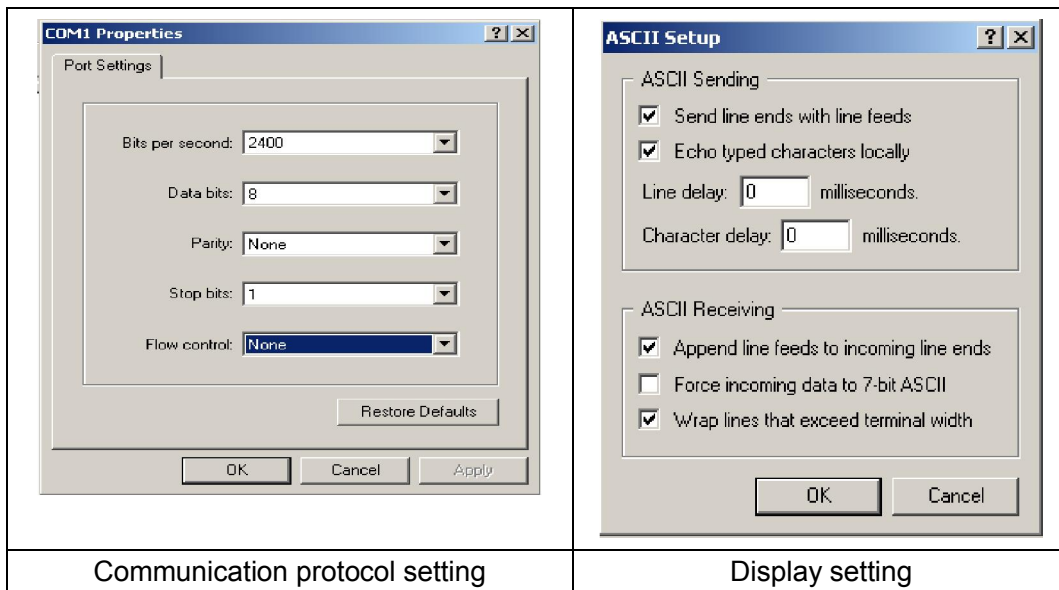

Figure 7.1 Hyper terminal setting
1. Connect the RS232 port of the UPS to the RS232 port of the computer with RS232 cable. Choose the "Start/Program/Accessory/Communication/Hyper terminal" and start Hyper terminal application. Set the COM port for "COM1" and the other setting as Figure 7.1.